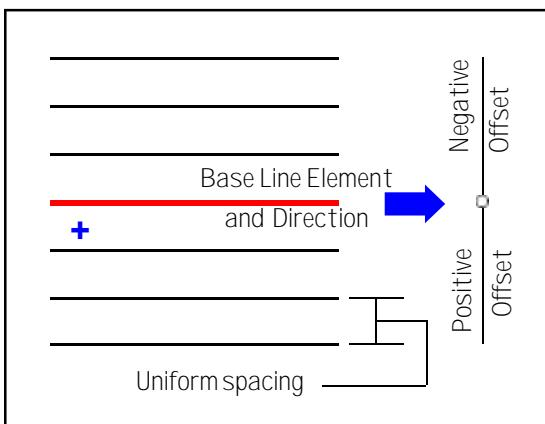

Figure 3
- A. **Two point line**, a small blue cross, denoting the positive offset direction from the base element, is displayed slightly offset from said element, see Figure 3. Additionally, a dialog box similar